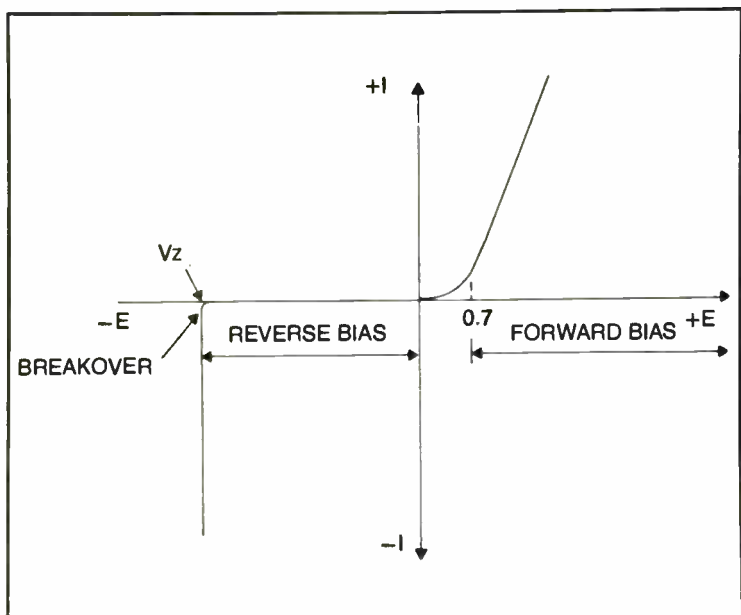

Fig. 10-34. Zener diode regulator curve.
**Zener diodes.** The zener (zen-ner) diode is a specialized PN junction device that will provide some voltage regulation. Figure 10-34 shows the transfer characteristic of the zener diode. In the forward bias region, it will behave the same as any ordinary PN